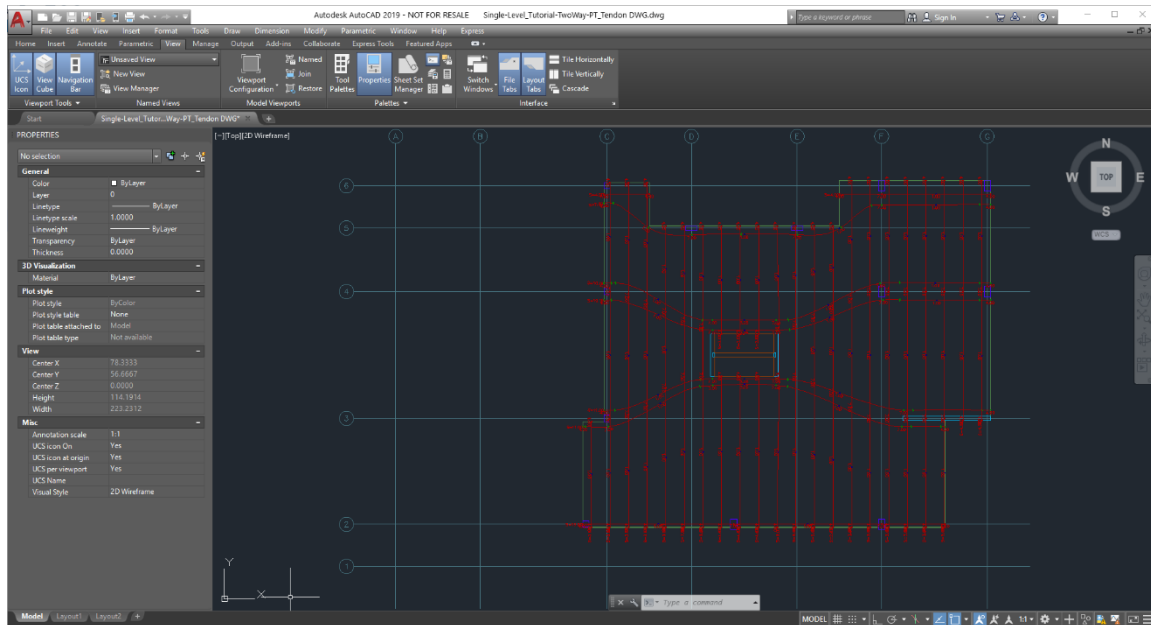

Figure 8-91
- Opening the drawing the user should have a CAD file that looks similar to the CAD file shown in **FIGURE 8-91**.